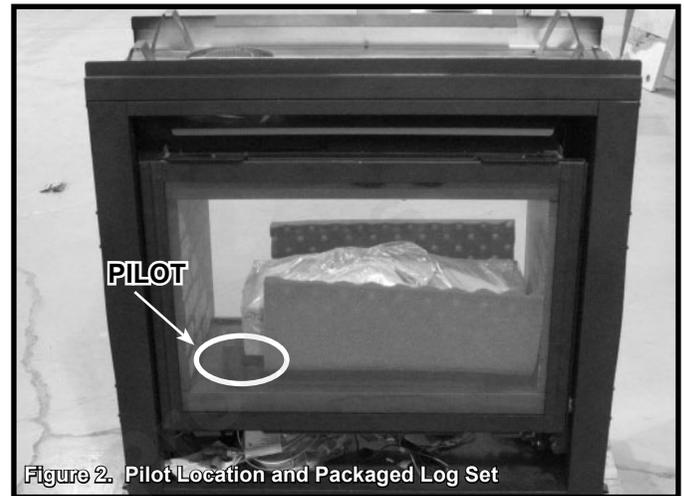

Figure 2. Pilot Location and Packaged Log Set
**STEP 1. CAUTION! Logs are fragile!** Carefully remove the microfoam and packaged logs from the inside of the fireplace. See Figure 2. Remove the Mystic Embers and mineral wool and set aside. Remove the packaging from the logs and inspect the logs for damage. To ensure that you are working on the correct side of the appliance, verify that the pilot is on the left side. See Figure 2.